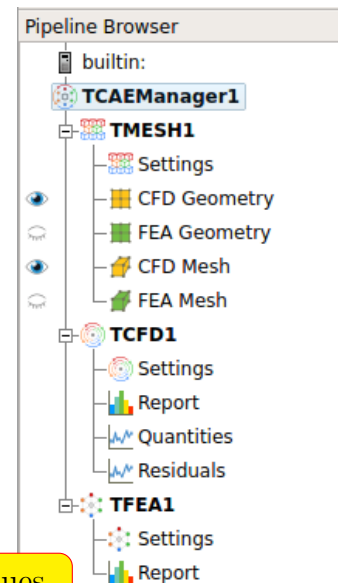

Figure 3.2: TCAE – GUI layout.
- **Pipeline Browser** serves as the main navigation tool. It contains the *Pipeline* – tree-like menu, which is used for switching between TCAE modules, and between their outputs. There is top-level item *TCAE Manager*. This item is renamed after the project folder name. Another items connected to the *TCAE Manager* are the modules *TMESH*, *TCFD* (if enabled), *TFEA* (if enabled), *TOPT* (if enabled) and *TCAA* (if enabled). Each module has then its *Output Ports*, that are used to display the output of the modules in the *Views*, as will be described below. The *Pipeline Browser* is depicted in Figure 3.2.